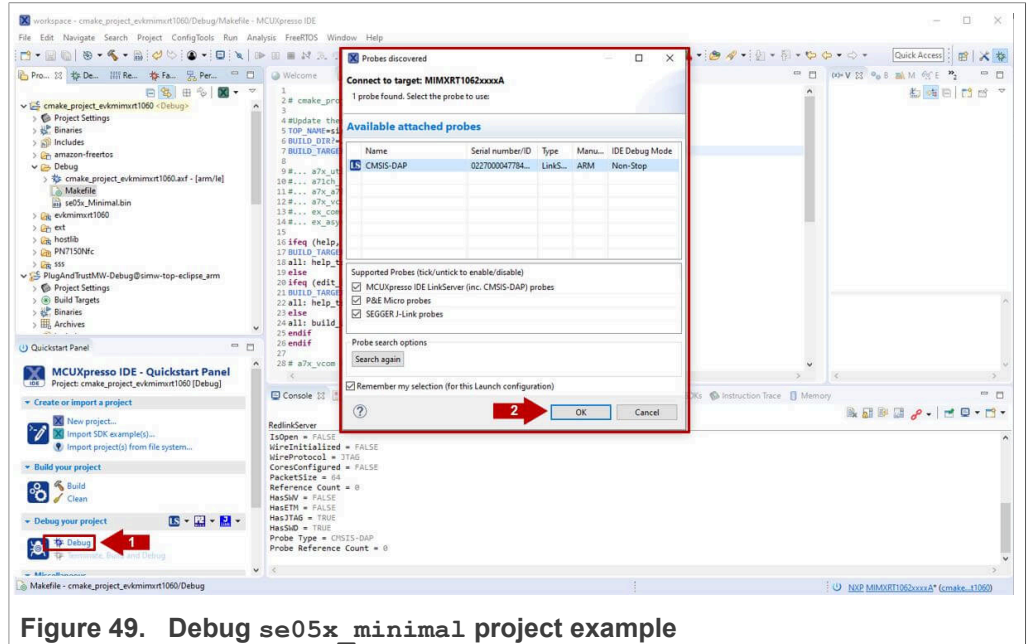

Figure 49. Debug se05x_minimal project example
- Go to the MCUExpresso Quickstart Panel and (1) click on the **Debug** button as shown in Figure 49. If there is more than one probe attached, you have to (2) select the CMSIS-DAP debug probe from the list. Wait a few seconds until the project executes: